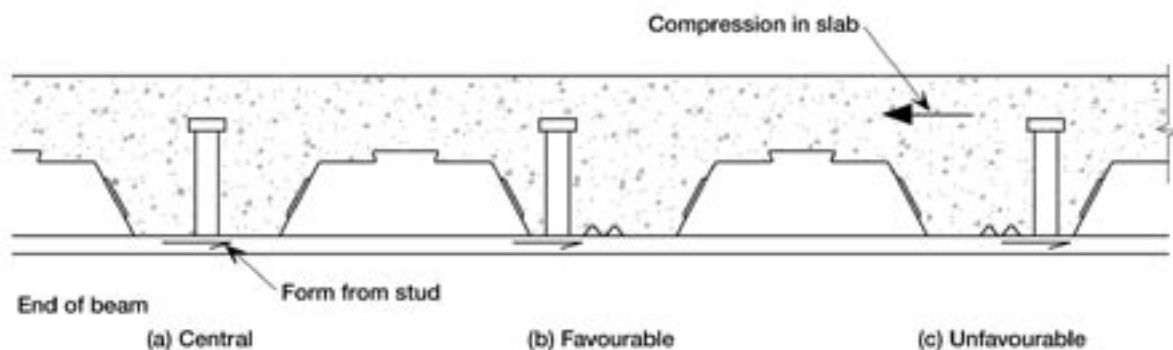

Figure 2: Stud welded in the 'beneficial' position.
4. In trapezoidal decking, studs should be placed in the 'beneficial' position – which is at the side of the trough with the lowest bending moment (usually towards the beam end), or allowed for in design. See Figure 2.